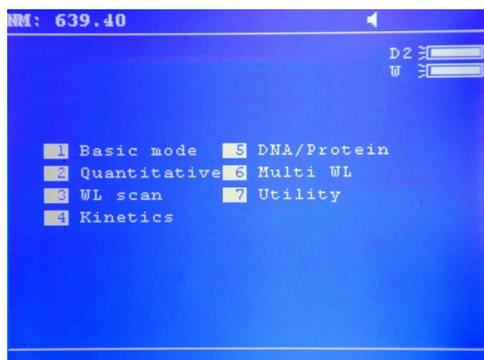
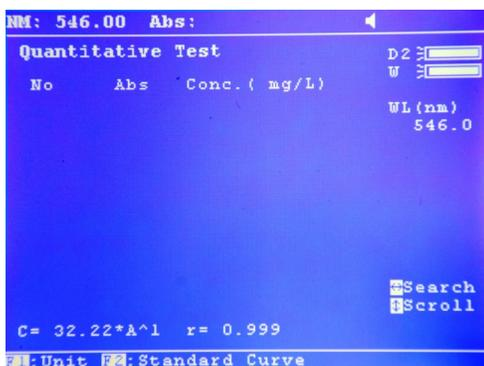

Fig. 3-2
Fig. 3-7
Whether the warm up process is skipped or not, a prompt "System calibration? No" will be given. Press  or  to select "Yes" and press , the system will continue the calibration process and then enter the main interface (Fig. 3-2).
When the system shows the main interface (Fig. 3-2), press  to enter the photometric measurement interface (Fig. 3-3).
When the system shows the main interface, press  on the key panel to enter the quantitative measurement interface (Fig. 3-7).
When the system shows the main interface (Fig. 3-2), Press  to enter the quantitative measurement interface (Fig. 3-7).
Step1: Enter the quantitative measurement interface (Fig. 3-7).